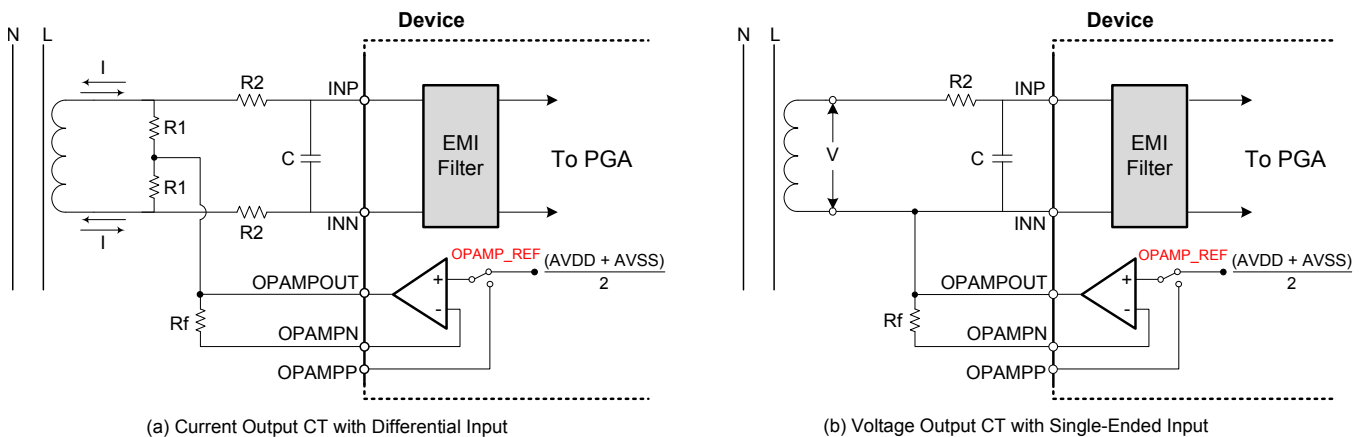

Figure 41. Simplified Current-Sensing Connections
Figure 41 shows a simplified diagram of typical configurations used for current sensing with a Rogowski coil, current transformer (CT), or an air coil that outputs a current or voltage. In the case of current-output transformers, the burden resistors ($R1$) are used for current-to-voltage conversion. The burden resistor output is connected to the ADS130E08 INP and INN inputs through an antialiasing RC filter for current sensing. In the case of voltage-output transformers (such as certain types of Rogowski coils), the transformer output terminals are directly connected to the ADS130E08 INP and INN inputs through an antialiasing RC filter for current sensing. The common-mode bias voltage $(AVDD + AVSS) / 2$, can be obtained from the ADS130E08 by either configuring the internal op amp in a unity-gain configuration using the R_F resistor and setting bit 3 of CONFIG3: Configuration Register 3, or it can be generated externally with a simple resistor divider network between the positive and negative supplies.